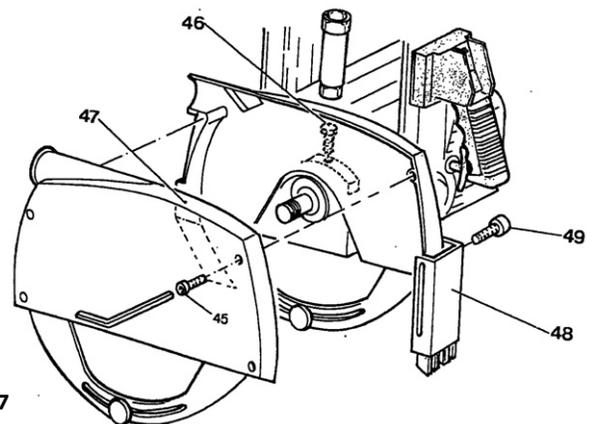

Fig. 17
After removing the blade, separate the two half blade guards by means of the screws (45). Apply the half guard to the motor with the screw (46) TE M8x35 (see fig. 17). Remount the blade, locking it firmly with the stop nut and the remount the other half guard using corresponding screws. The accident prevention guards and should also be regulated (47 and 48).
Position the rods as illustrated in fig. 24. Loosening the lever (55) and keeping the lever (58) pulled (see fig. 24) the FORK-MOTOR unit will be released. Rotate the unit until the blade is in front of the column release the lever (58) and make sure that it is accurately housed in its seat after which, block the lever (55) bring the blade alongside the supporting bar and check that the BLACK index is at the zero of the lower scale. If it does not coincide, work on the screw (59) to regulate the anti-return unit (48) work on the screws (49) (see fig. 17) in such a way that the safety teeth come into contact with the piece to be cut. These teeth have the specific function of preventing the return of the piece against the operator.